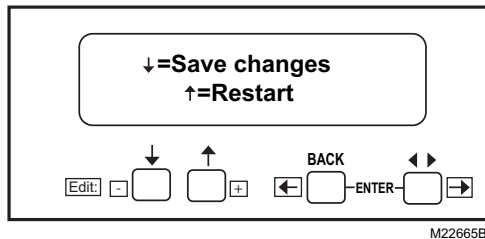

Fig. 8. Save Changes screen.
8. "Getting Data" will be momentarily displayed, followed by the screen shown in Fig. 8.